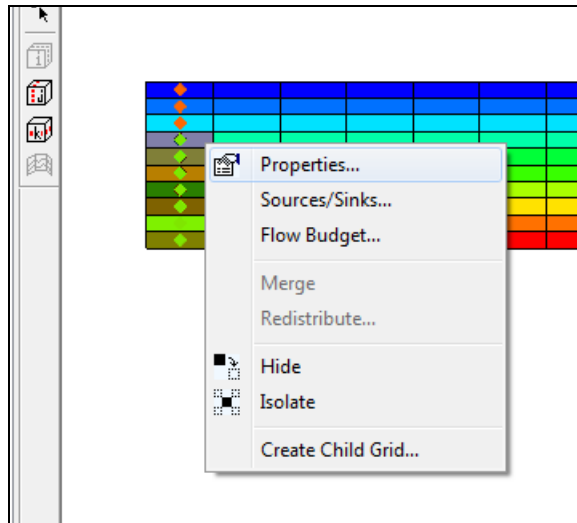

Figure 2 Assigning the constant concentration boundary condition
7. Choose the **Select Cells**  tool and select the seven lower-most cells at in the leftmost column. (See Figure 2)